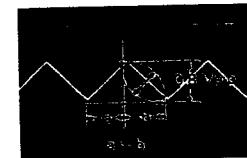

Fig. 4-5
- Adjust R37 (H-TRI-PHASE) so that a equals b as shown in Fig. 4-5.